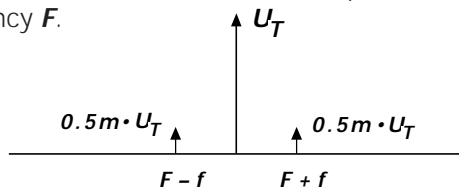

Figure 1
**Fig. 1** shows a case where the **HOLD OFF** knob is in the minimum position and various different waveforms are overlapped on the screen, making the signal observation unsuccessful.